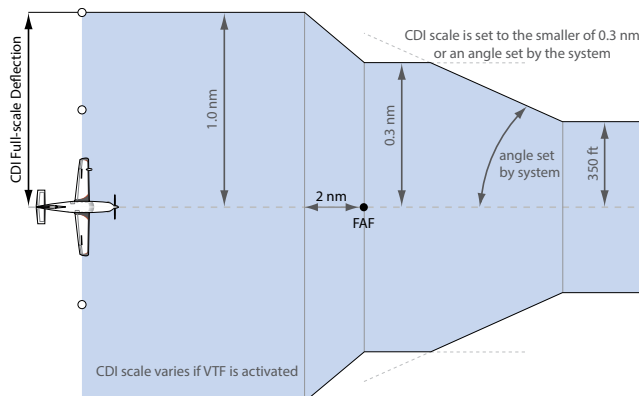

Figure 2-28 Typical LNAV and LNAV+V Approach Service Level CDI Scaling
- During **approach**, the CDI scale ramps down even further (see Figures 2-28 and 2-29). This transition normally occurs within 2.0 nm of the final approach fix (FAF). The CDI switches to approach scaling automatically once the approach procedure is activated or if Vectors-To-Final (VTF) are selected.